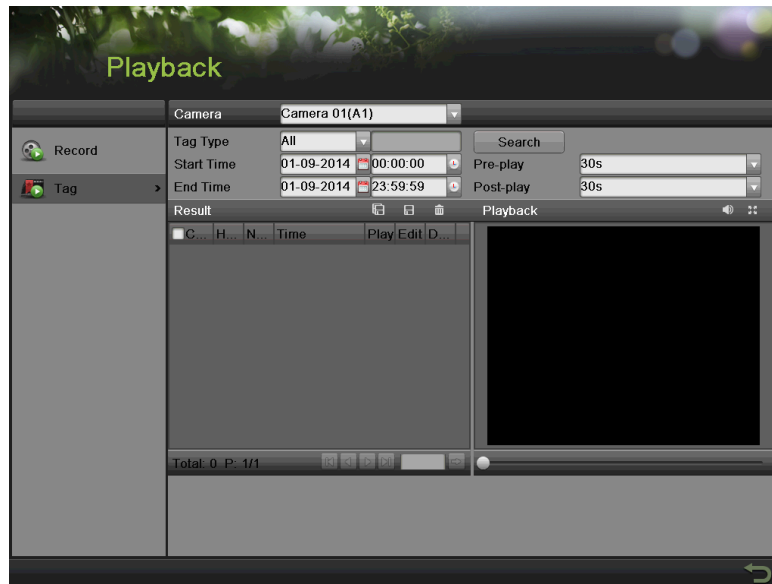

Figure 76 Tag Playback Interface
1. Enter the Tag interface, shown in Figure 76 by going to Menu > Playback > Tag.